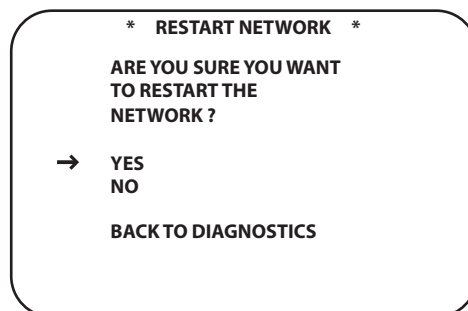

Figure 81.
4. With the cursor next to **RESTART NETWORK**, press the **Set Button 18**. The **RESTART NETWORK** screen will appear (**Figure 81**).